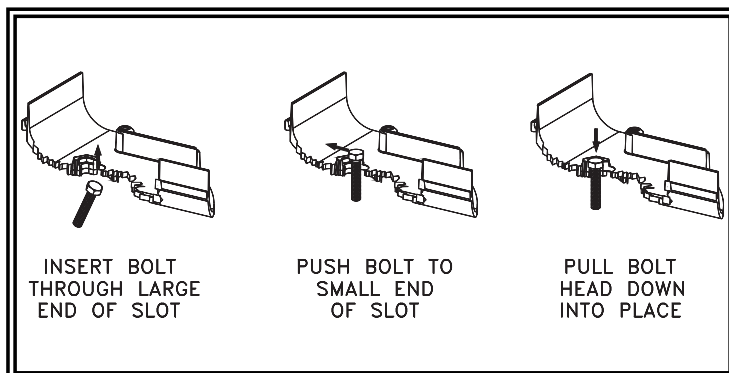

FIGURE 1
3. Place the four (4) mounting bolts in the bottom of the base as shown in Figure 1. The base has a mechanism to hold the bolts in place for installation.